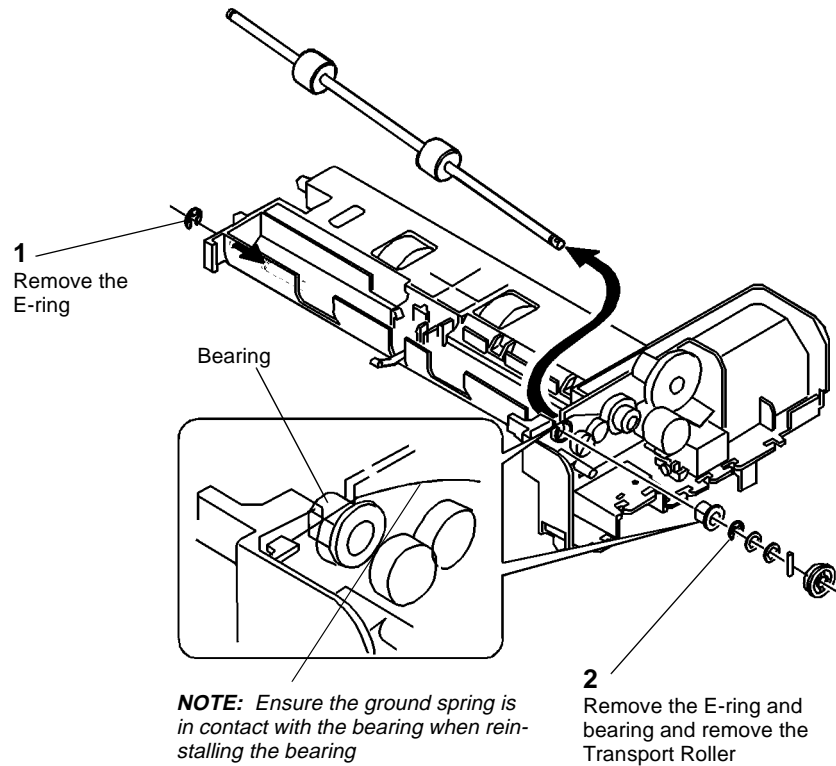

Figure 3 Removing the Transport Roller
3. (Figure 3): Remove the Transport Roller.